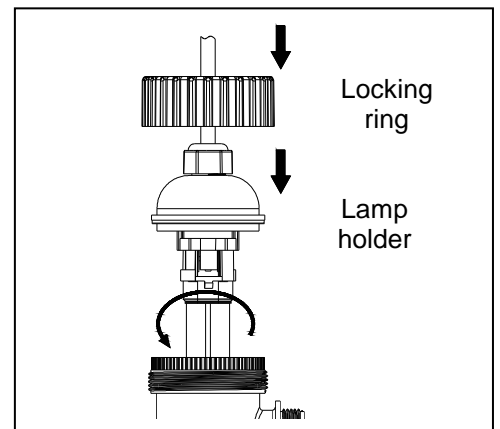

Fig. 18
4. Reinstall the lamp holder and locking ring. Fig. 18